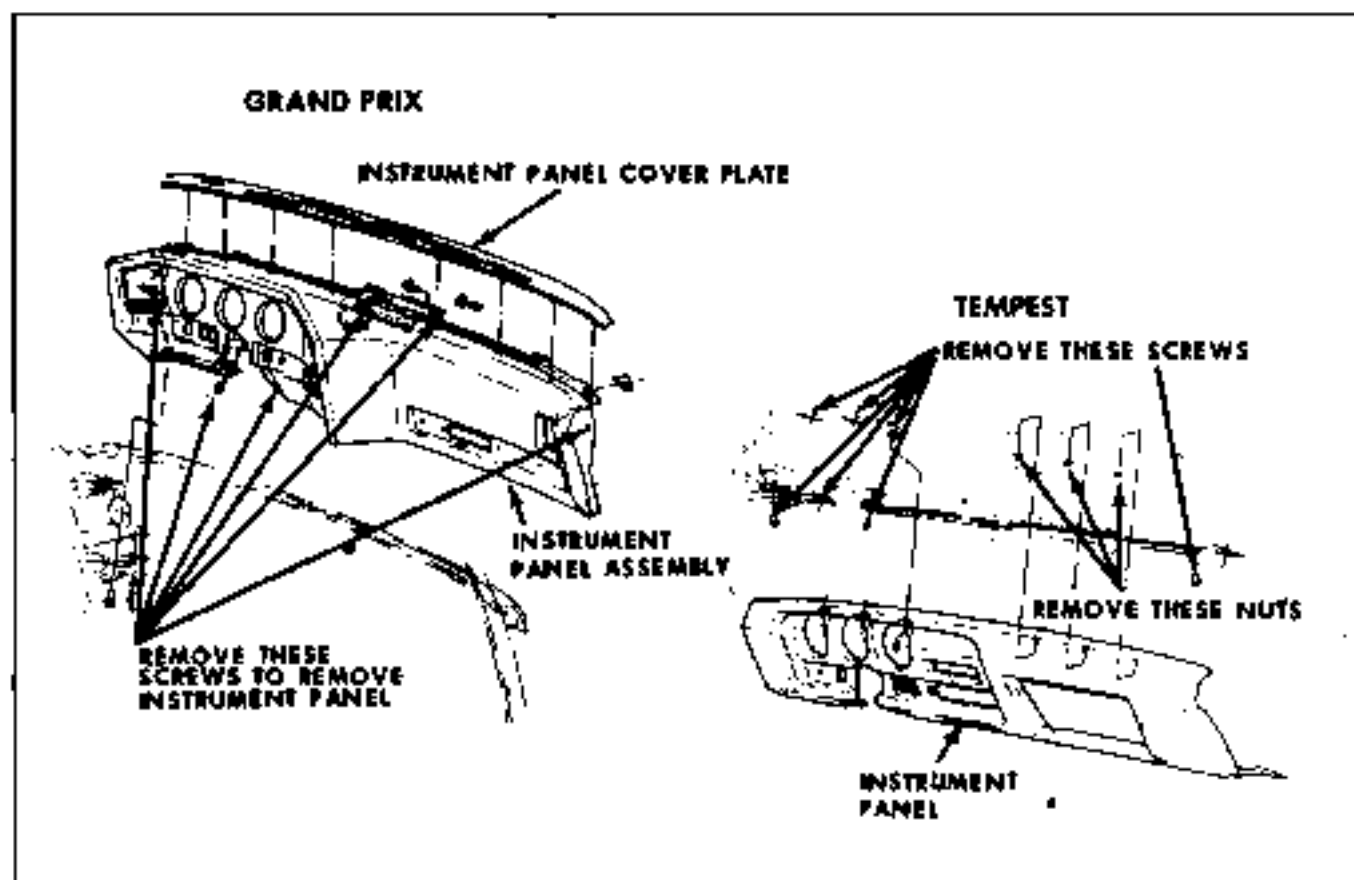

Fig. 12-27 Tempest and Grand Prix Instrument Panel Installation
5. Remove three (3) screws at instrument bombs, Fig. 12-27.
6. Remove two (2) instrument panel to column support screws, one screw at each outboard lower end of panel and three (3) nuts above glove compartment (inner).
6. Remove two (2) instrument panel to column support screws.